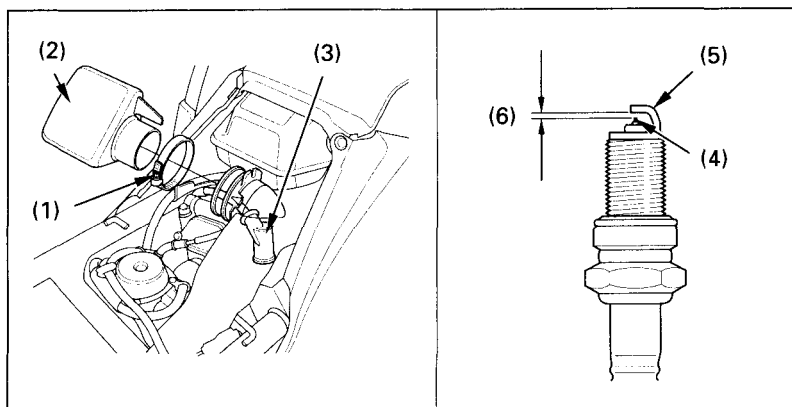

Fig. 4-18 (1) Screw
2. Loosen the screw and remove the resonance chamber (Fig. 4-18).